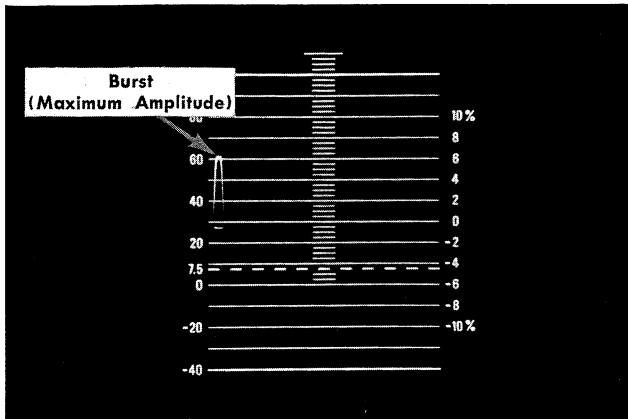

Fig. 6-27. Correct Type 520 color bar display for adjusting burst flag timing.
- Rotate the channel A PHASE control to obtain maximum positive-going burst amplitude; see Fig. 6-27.